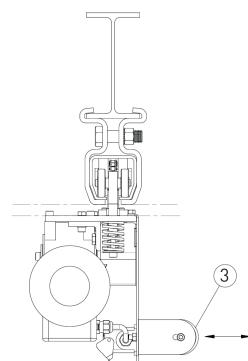

FIGURE 4
STEP 6: Regulate the balance weight (f/n 3) until the trolley's driven base is parallel to the track profile. See Figure 4.